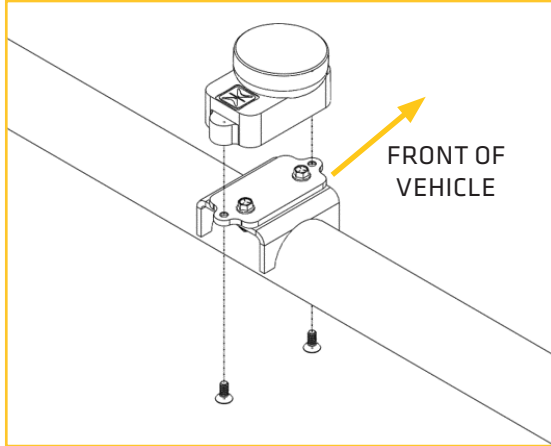

FIGURE 48 - LEFT SIDE
6. Install the lower bump stops on to the mounting bracket using the provided countersunk screws. The circular pad of the bump stop will face the front of the vehicle. The bump stops will connect to each tip of the bracket's countersunk holes. Tighten to 14 ft-lbs. (FIGURES 48, 49, 50, 51, 52, 53)